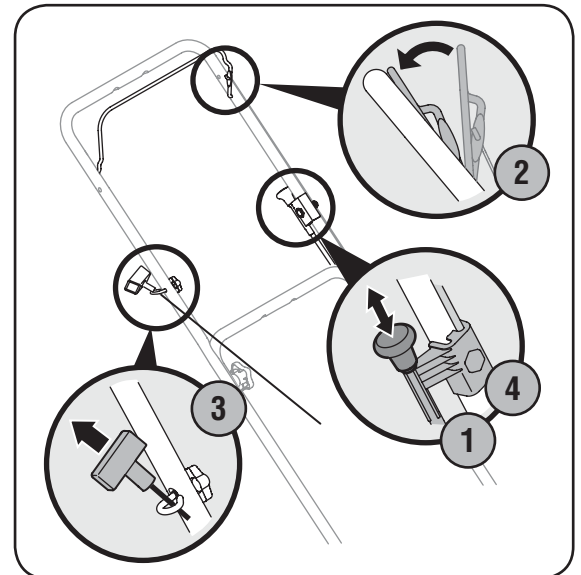

Figure 3-4 - Models with a manual choke.
1. Move the choke lever on the left side of the upper handle to START position. See Figure 3-4.
3. Pull the starter grip lightly until resistance is felt, then pull rapidly to overcome compression, prevent kickback and start engine. Repeat if necessary. See Figure 3-4 .